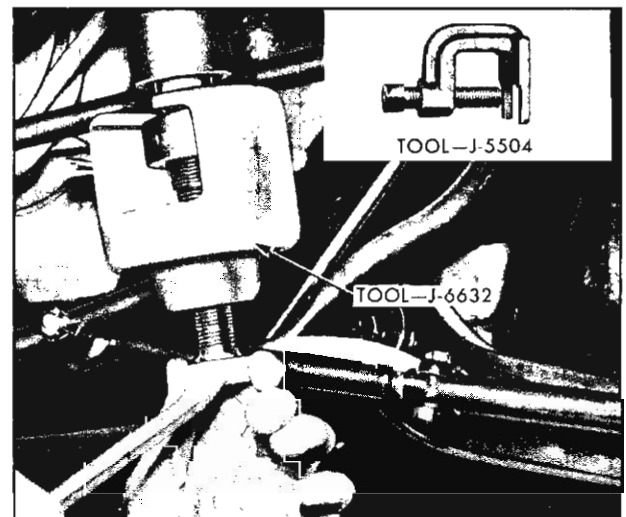

Fig. 43—Removing Pitman Arm
1. Place car on suitable hoist or jackstand and disconnect pitman arm from pitman arm shaft, using Tool J-6632 (or Tool J-5504) (fig. 43).